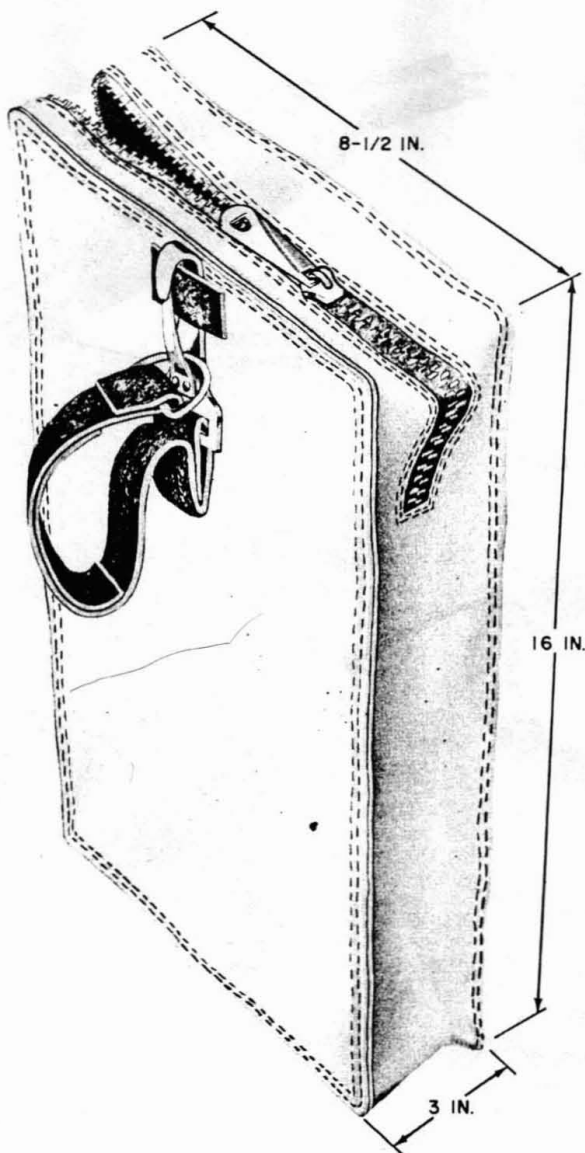

Fig. 5—B Glove Bag
- 3.09 The B glove bag (Fig. 5) is used to store the central office test cords.